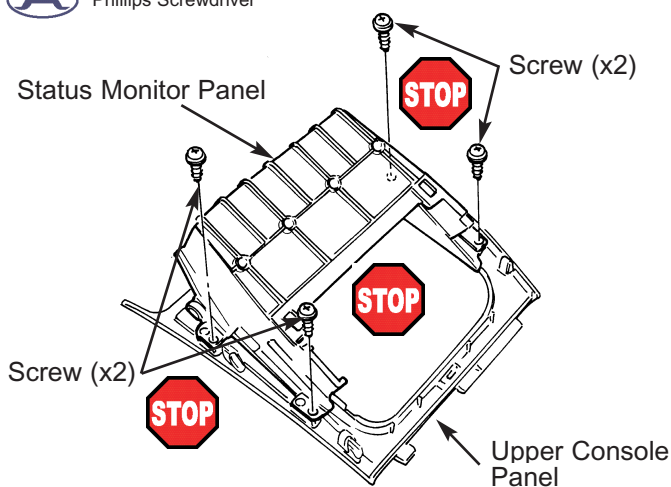

Fig. I4
4. Using the four screws, secure the status monitor panel to the upper console panel. (Fig. I4)